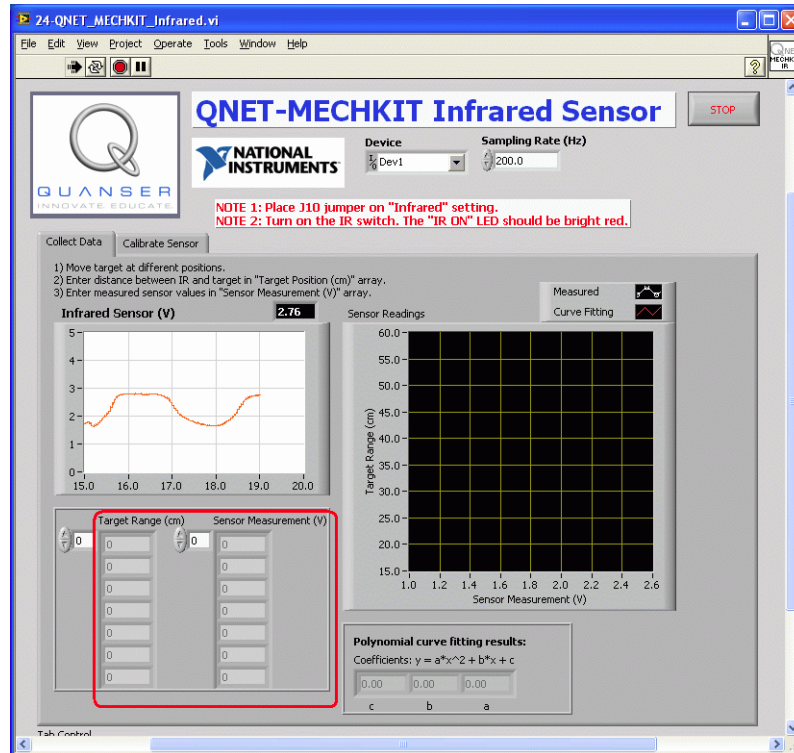
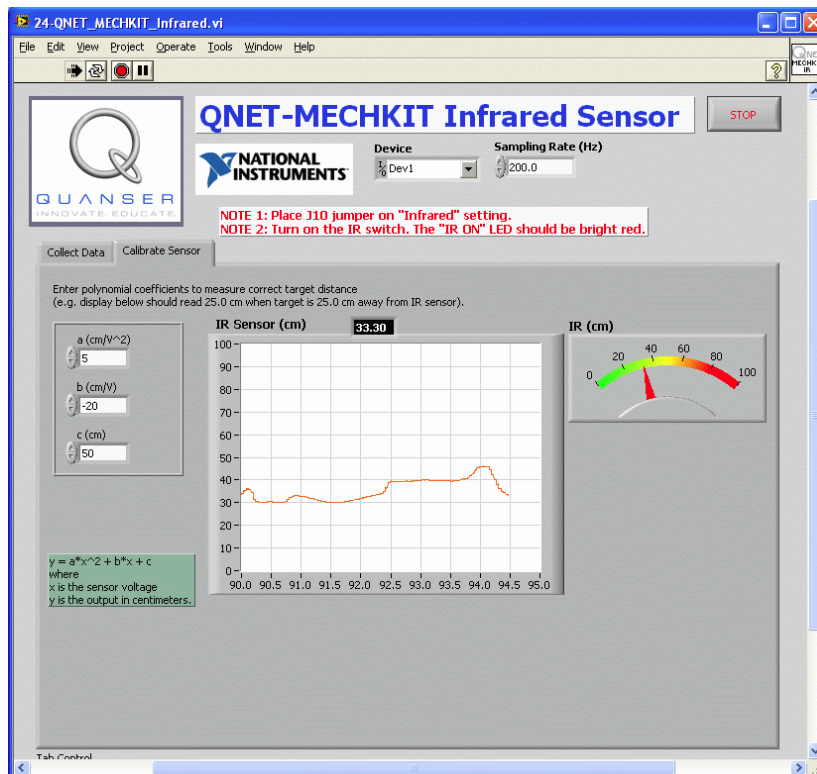

Figure 7.2: Collecting IR data
Figure 7.3: Calibrating the IR sensor
The virtual instrument used to collect data using the IR sensor is shown in Figure 7.2. The virtual instrument used to calibrate IR range data is shown in Figure 7.3.
7. Once its range of operation is found, enter the distance between the target and the IR sensor in the Target Range (cm) array, as shown in Figure 7.2.
8. Enter the corresponding measured voltage from the IR sensor in the Sensor Measurement (V) array, as shown in Figure 7.2.